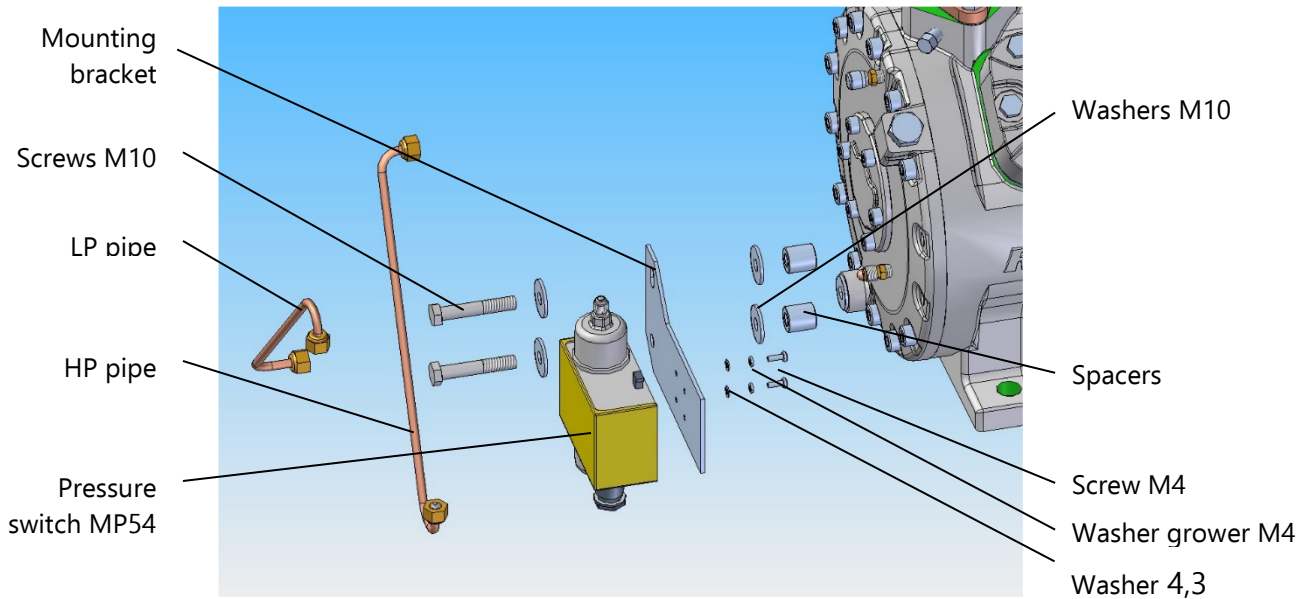
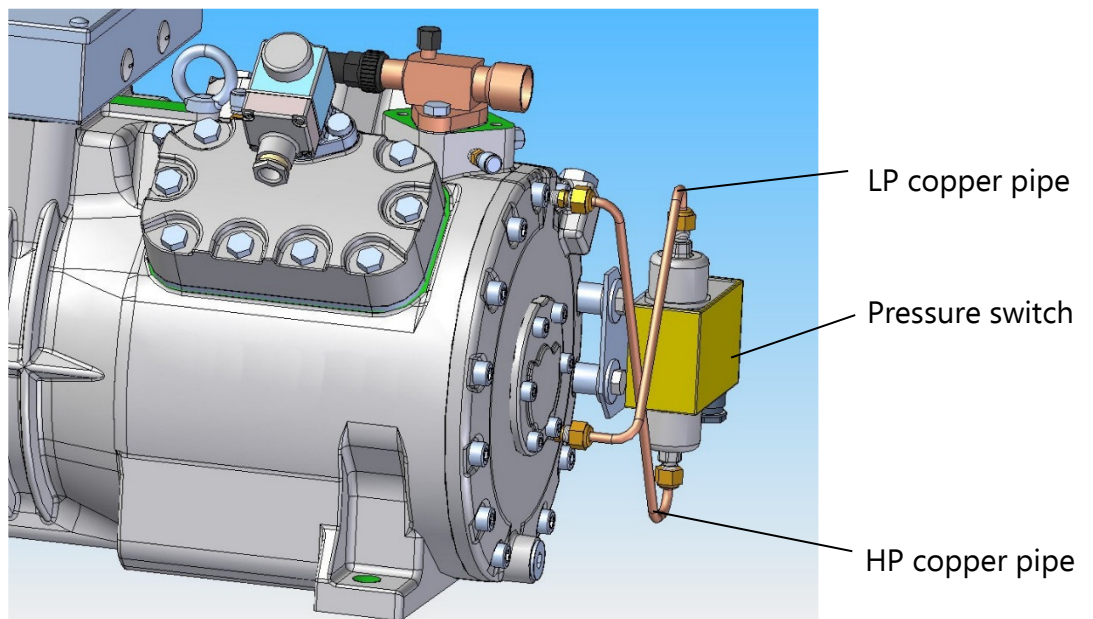

Fig. 27 Components of pressure switch kit (p/n 303860) for RP1-H410÷420-F, L406÷412-F
Fig. 28 Assembling scheme of MP54 for SP4HF / SP4LF
- for RP1-H410÷420-F and L406÷412-F models is provided as a kit (ref. Fig. 27, Fig. 28) to be assembled during the installation of the compressor in the plant, because it protrudes from the compressor dimensions and could be damaged during transportation.